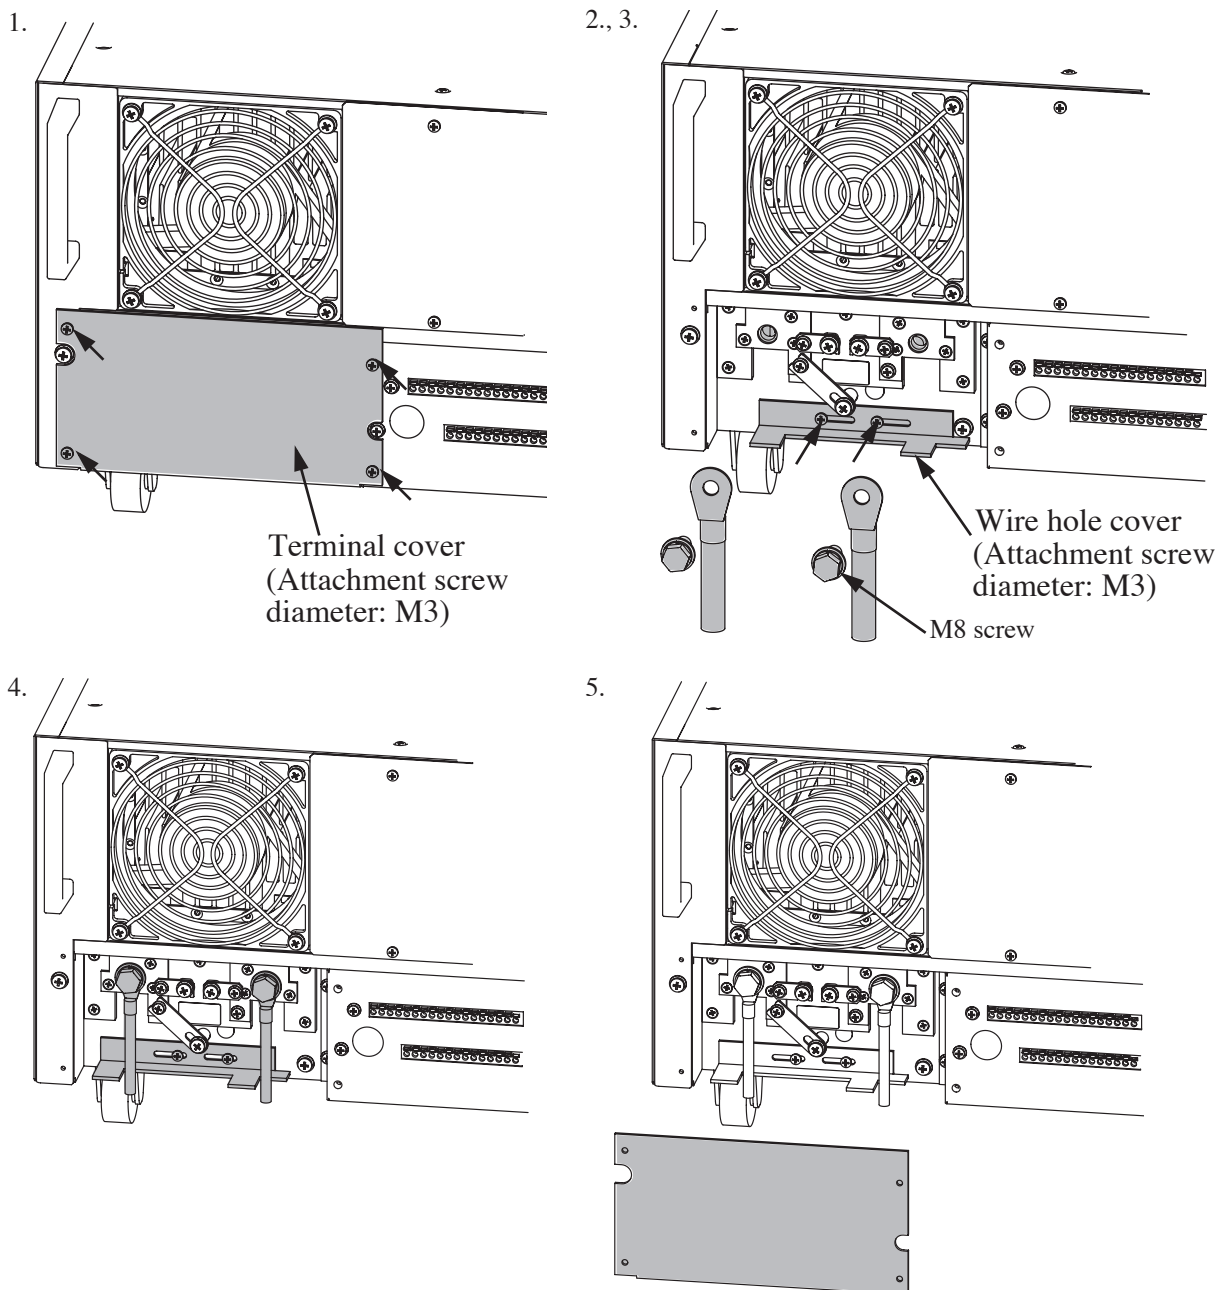

Fig. 3-3 Connecting to the output terminals (Type III model)
1. Remove the terminal cover. (See Fig. 3-3 for the following procedure.)